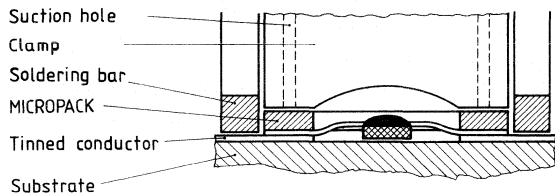

Figure 4
- b) For large quantities (e.g. more than 50.0 items/y) we recommend bar soldering (figure 4).